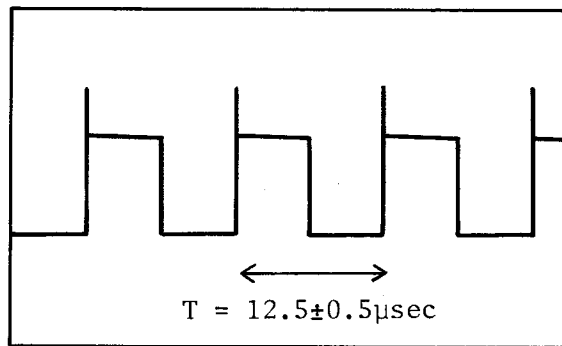

Figure 1-4. Switching Waveform
7. Adjust A1R19 (FREQ-ADJ) until the period (T), of the waveform, is $12.5 \mu\text{s} \pm 0.5 \mu\text{s}$, as shown in Figure 1-4.